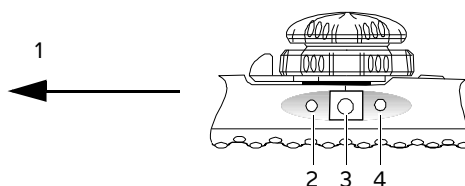

Figure 2-7 Scan plane rotation controls
The scan plane rotation is driven by a motor in the transducer handle and is controlled by buttons on the handle (see Figure 2-7).
- ❖ Press the biplane button (the center button) on the transducer handle. See Figure 2-7 on page 2-10.
- 3 Press the scan plane control buttons on the handle to rotate the scan plane counterclockwise (0° to 180°) and clockwise (180° to 0°). See Figure 2-7 on page 2-10.